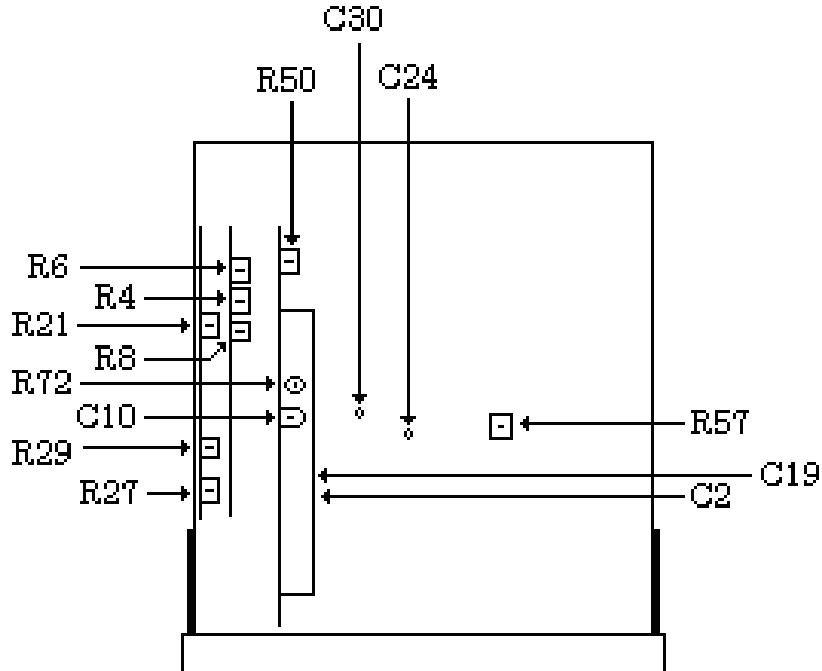

Figure 1. Test instrument – top view.
- (1) Set calibrator for a $1\text{ M}\Omega$ output.
- (2) Press TI **RANGE 200mV** pushbutton.
- (3) Adjust C24 (fig. 1) until TI indicates between -00.01 and +00.01.
- (4) Set calibrator for a 190 mV dc output. Record TI indication.
- (5) Set calibrator for a -190 mV dc output. Adjust C30 (fig. 1) until TI indication is within ± 1 digit of indication recorded in (4) above. (R)
- (6) Repeat (1) through (5) above until no further adjustments are required.
- (7) Press **RANGE 2** pushbutton.
- (8) Set calibrator for a 1.9 V dc output. Adjust R57 (fig. 1) until TI indicates $+1.9000 \pm 1$ digit. (R)
- (9) Set calibrator for a -1.9 V dc output. Adjust R57 (fig. 1) until TI indicates -1.9000 ± 1 digit.
- (10) Repeat (8) and (9) above until no further adjustments are required.
- (11) Press **RANGE 20** pushbutton.
- (12) Set calibrator for a 19 V dc output. Adjust R4 (fig. 1) until TI indicates $+19.000 \pm 1$ digit. (R)
- (13) Set calibrator for a -19 V dc output. Adjust R4 (fig. 1) until TI indicates -19.000 ± 1 digit.
- (14) Repeat (12) and (13) above until no further adjustments are required.
- (15) Press **RANGE 200** pushbutton.
- (16) Set calibrator for a 190 V dc output. Adjust R6 (fig. 1) until TI indicates $+190.00 \pm 1$ digit. (R)
- (17) Press **RANGE 1200V** pushbutton.
- (18) Set calibrator for a 1000 V dc output. Adjust R8 (fig. 1) until TI indicates $+1000.0 \pm 1$ digit. (R)
- (1) Press TI **RANGE 2000kΩ** pushbutton.
- (2) Set calibrator **EX SNS** off, **2 wire Comp** off and output to $1\ M\Omega$. Adjust R21 (fig. 1) until TI indication is within ± 1 digit of calibrator output display indication rounded to TI digits of resolution. (R)
- (3) Press TI **RANGE 2** pushbutton.
- (4) Set calibrator for a $1\ k\Omega$ output, **EX SNS** on and **2 wire Comp** on. Adjust R27 (fig. 1) until TI indication is within ± 1 digit of calibrator output display indication rounded to TI digits of resolution. (R)
- (5) Press TI **RANGE 20MΩ** pushbutton.
- (6) Set calibrator **EX SNS** off, **2 wire Comp** off and output to $10\ M\Omega$. Adjust R29 (fig. 1) until TI indication is within ± 1 digit of calibrator output display indication rounded to TI digits of resolution. (R)
- (1) Set calibrator to **STANDBY**.
- (2) Press **RANGE 1200V** pushbutton.
- (3) Simultaneously press **FUNCTION AC MA** and **DCV** pushbuttons. Adjust R72 (fig. 1) until TI indicates between -20 and -30.
- (4) Press **FUNCTION ACV** and **RANGE 2** pushbuttons.
- (5) Set calibrator for a 1.9 V, 500 Hz output. Adjust R50 (fig. 1) until TI indicates 1.9000 ± 5 digits (R).
- (6) Press **RANGE 200** pushbutton.